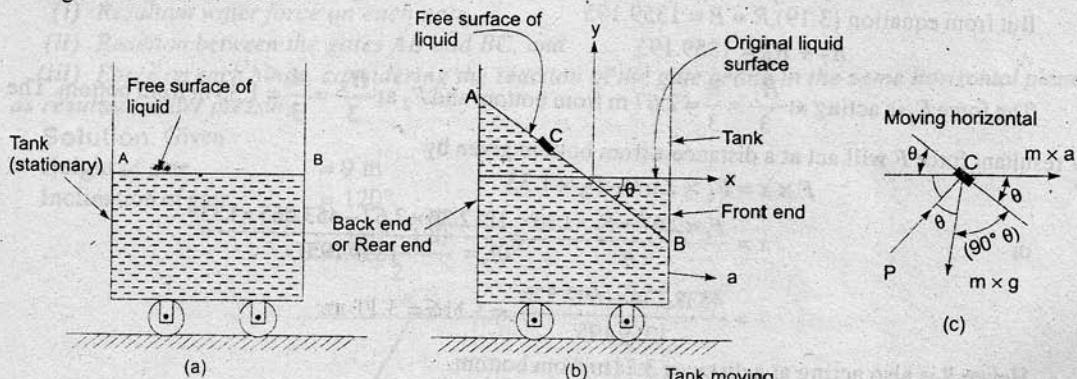

Fig. 3.43
3.8.1 Liquid Containers Subject to Constant Horizontal Acceleration. Fig. 3.43 (a) shows a tank containing a liquid upto a certain depth. The tank is stationary and free surface of liquid is horizontal. Let this tank is moving with a constant acceleration ' a ' in the horizontal direction towards right as shown in Fig. 3.43 (b). The initial free surface of liquid which was horizontal, now takes the shape as shown in Fig. 3.43 (b). Now AB represents the new free surface of the liquid. Thus the free surface of liquid due to horizontal acceleration will become a downward sloping inclined plane, with the liquid rising at the back end and the liquid falling at the front end. The equation for the free liquid surface can be derived by considering the equilibrium of a fluid element C lying on the free surface. The forces acting on the element C are :